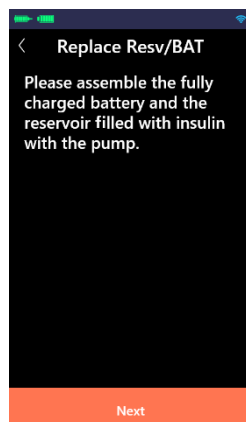

Figure 10.2
(2) Please assemble the fully charged battery and the reservoir filled with insulin with the pump (as shown in Figure 10.2). After the assembly is completed, please click “Next”.